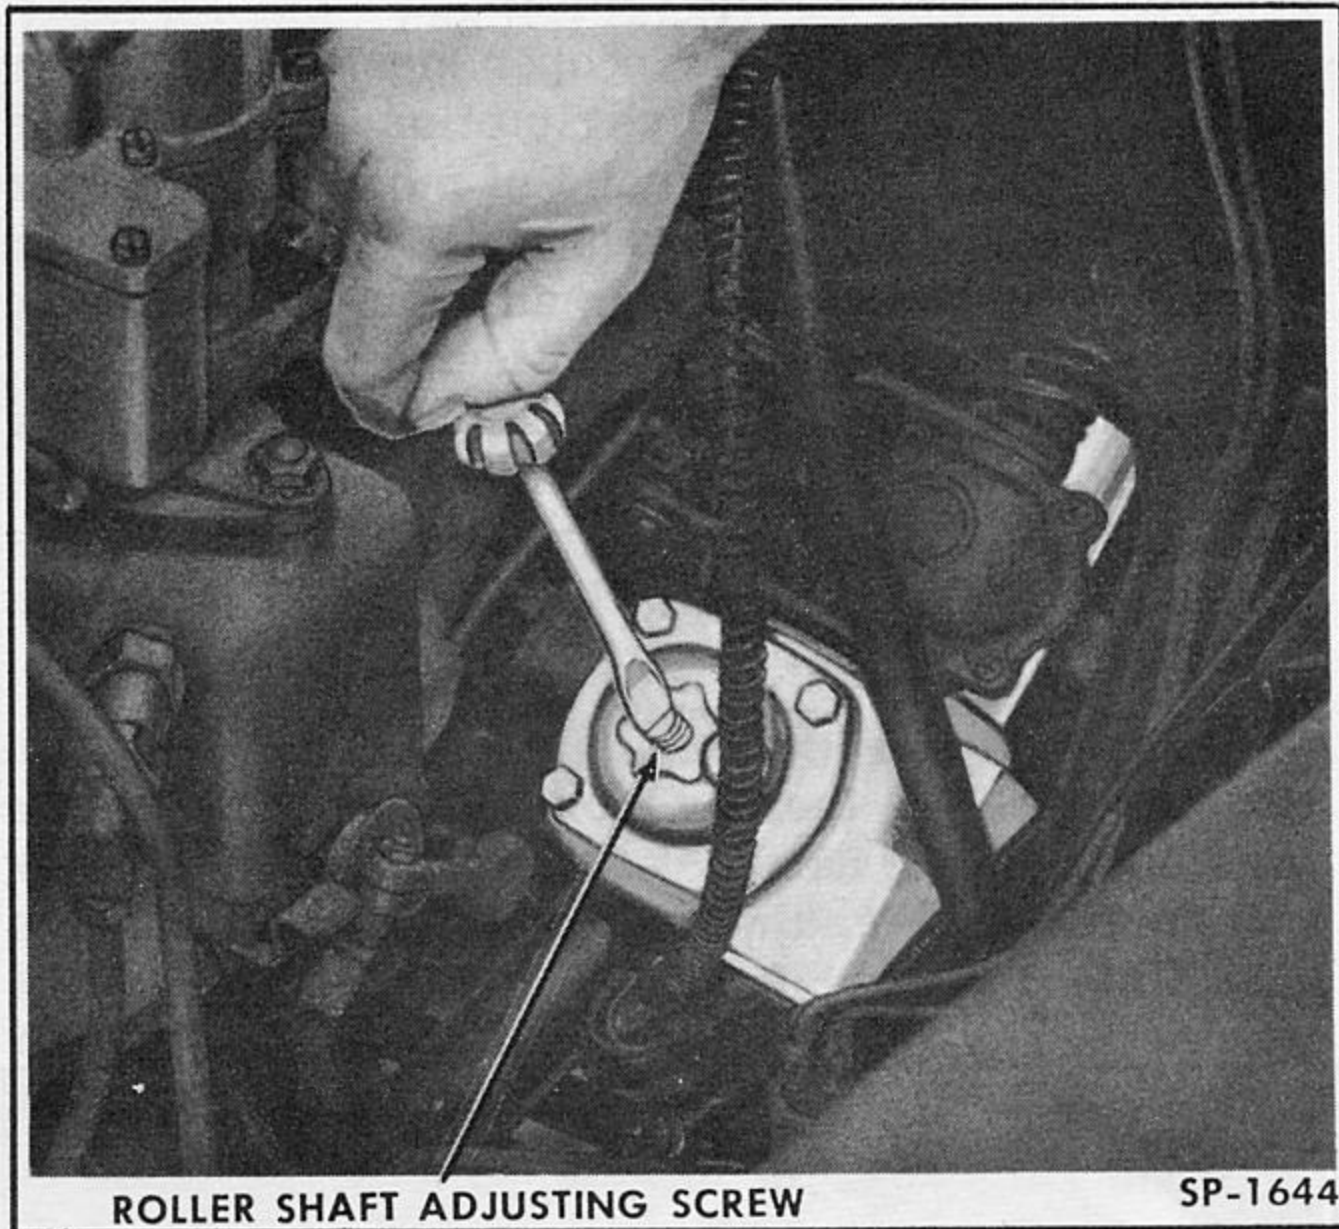

Fig. 194—Adjusting Steering Gear Shaft and Roller
4. Tighten adjusting screw down snug with a screwdriver, turning it clockwise. Then back off adjusting screw not more than $1/8$ of a turn (Fig. 194). Install the lock plate and the nut on the adjusting screw.